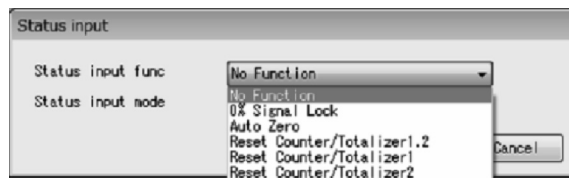

Fig.55
- ③ Click the triangle on the right side of "Status input func" as shown in Fig. 55, and select the output level from the drop-down list.